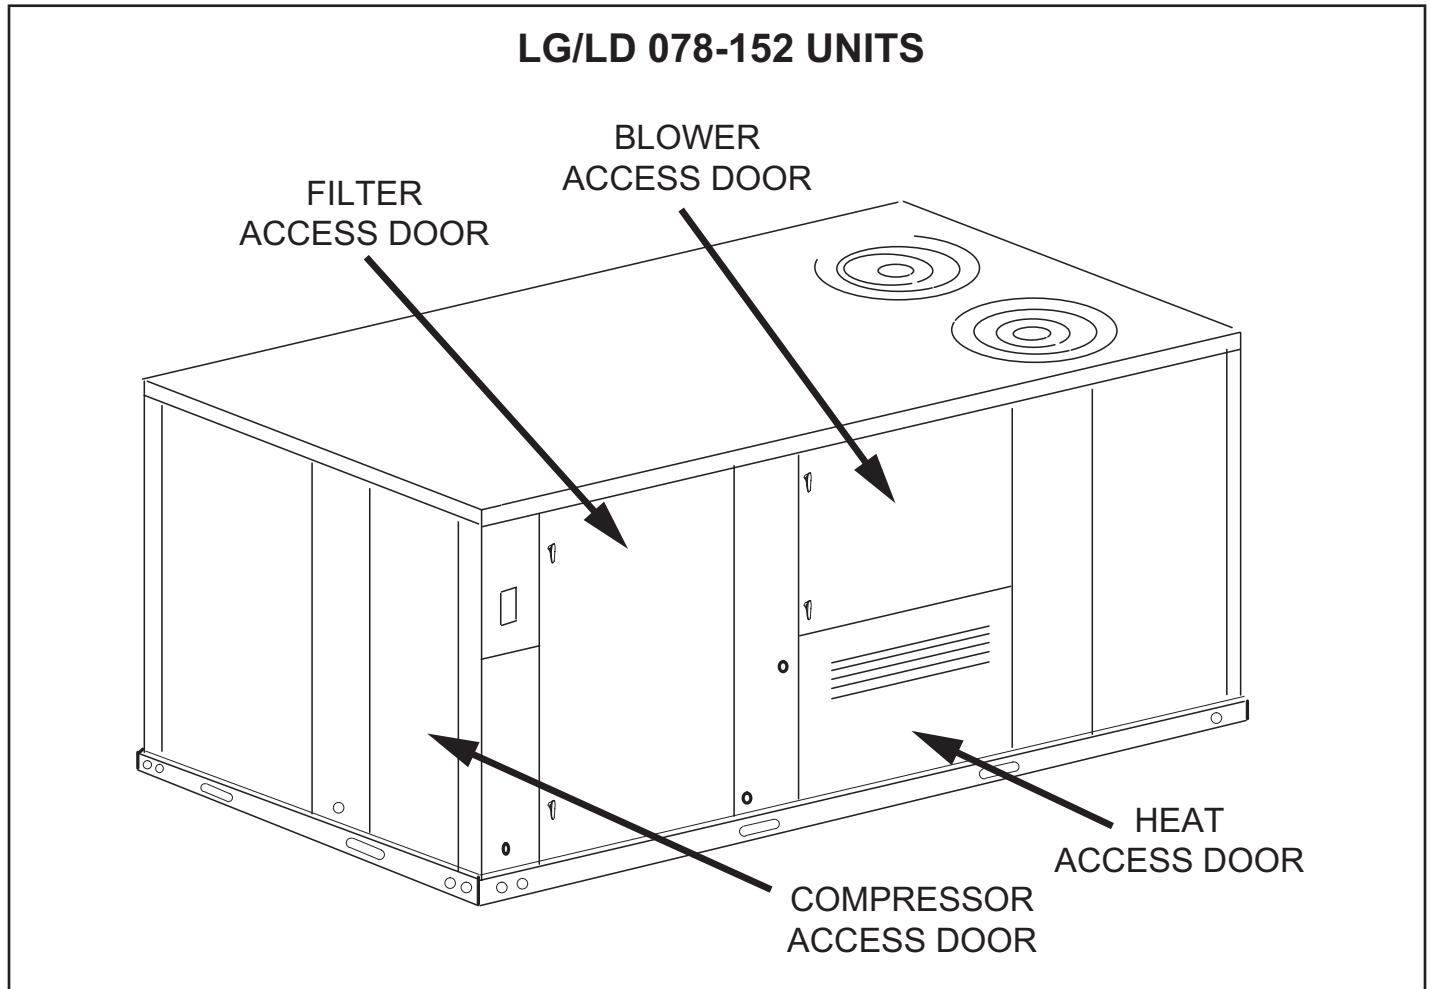

FIGURE 1
- 4 - Open the heat section access panel(s). (Refer to FIGURE 1).